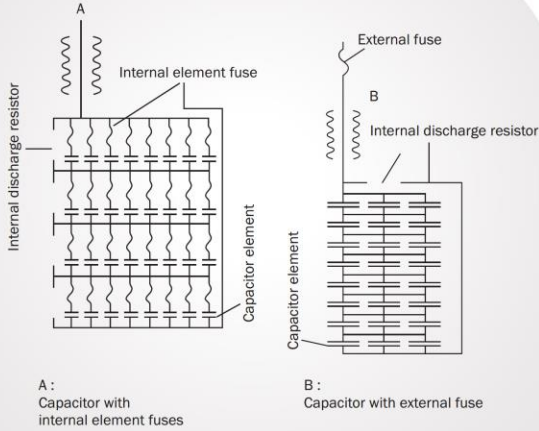

Fig : 2
- Capacitors are protected by internal elements fuses or by external unit fuse (Fig. 2)